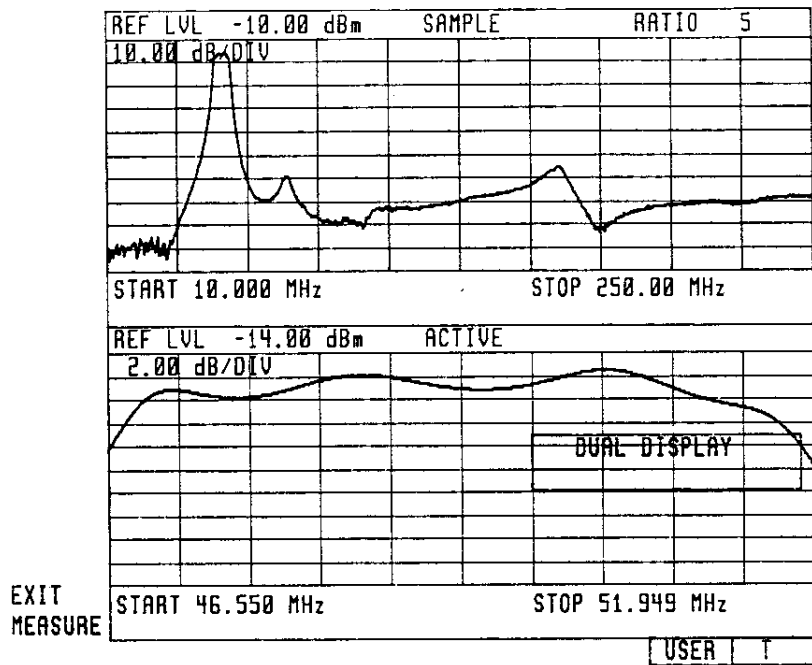

Figure 5-5. Dual Displays of Different Frequency Ranges
6. Press **MEASURE** to display an ACTIVE and a SAMPLE window (Figure 5-5).